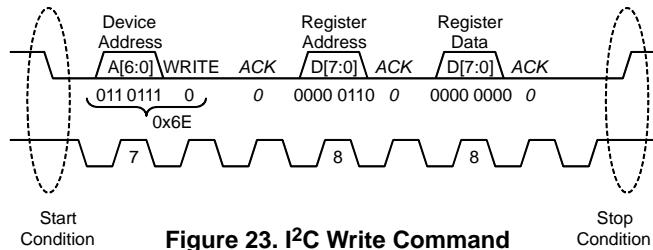

Figure 23. I²C Write Command
Figure 23 shows an I²C write operation. Write transactions begin with the master sending an I²C start sequence followed by the seven bit slave address (NOA3315 = 0x37) and the write(0) command bit. The NOA3315 will acknowledge this byte transfer with an appropriate ACK. Next the master will send the 8 bit register address to be written to. Again the NOA3315 will acknowledge reception with an ACK. Finally, the master will begin sending 8 bit data segment(s) to be written to the NOA3315 register bank.